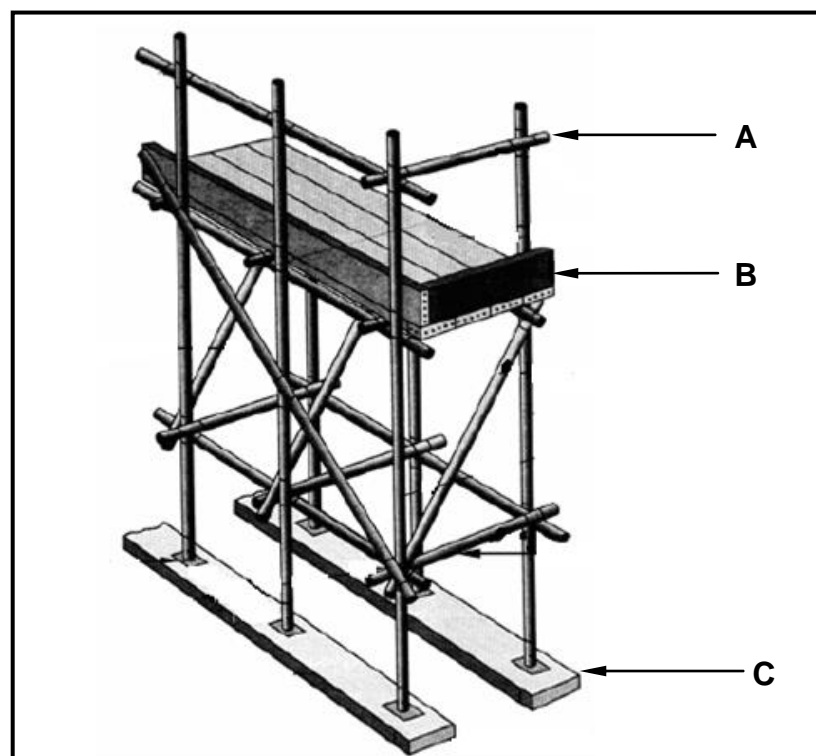

FIGURE 1.3
1.3 FIGURE 1.3 below shows a scaffold with a working platform.